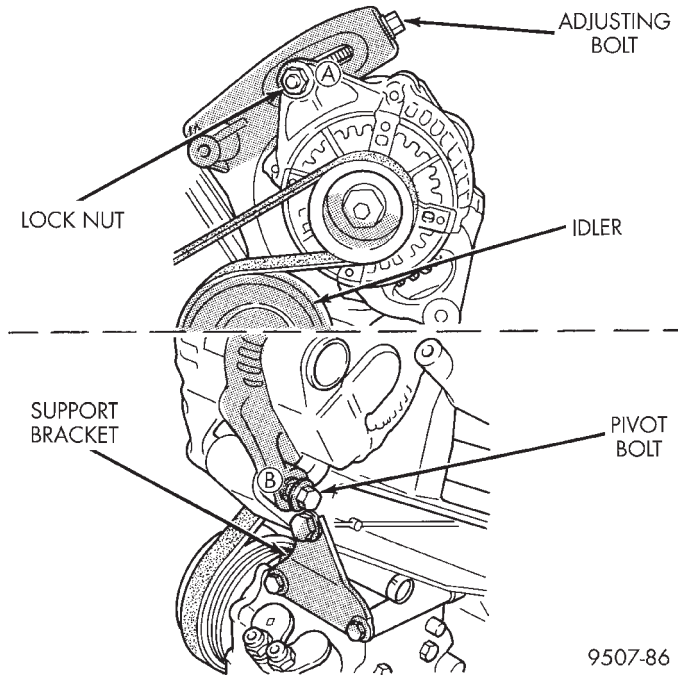

Fig. 36 Air Conditioning Compressor and Generator Belt Adjustment
(1) Loosen T-Bolt locking nut A and pivot bolt B to remove and install Poly V belt and/or adjust belt tension (Fig. 36).
(3) Tighten T-Bolt locking nut A and pivot bolt B to 54 N·m (40 ft. lbs.) (Fig. 36).